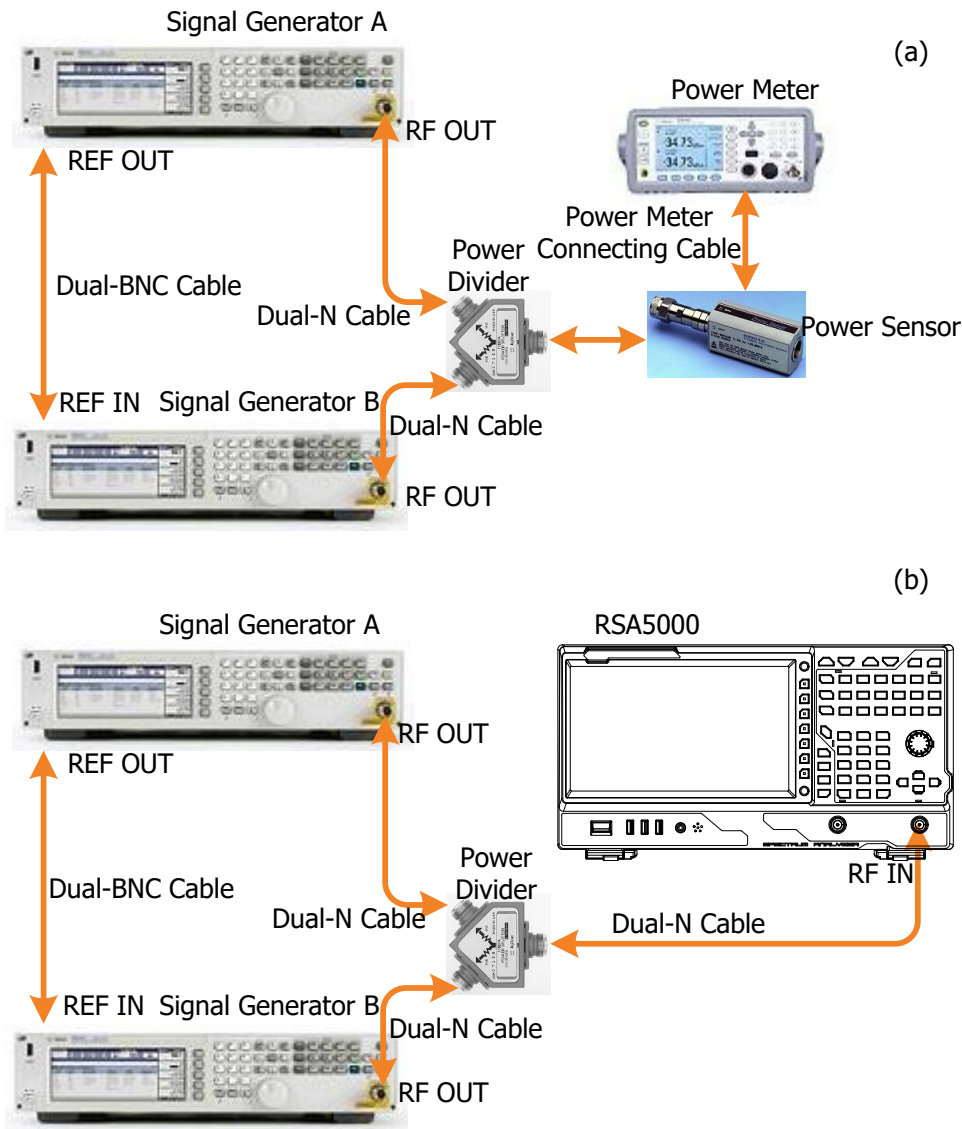

Figure 2-7 1 dB Gain Compression Test Connection Diagram
2. Synchronize the two signal generators. Connect the outputs of the two signal generators with the power divider. Then connect the power divider with the power sensor, as shown in Figure 2-7 (a).